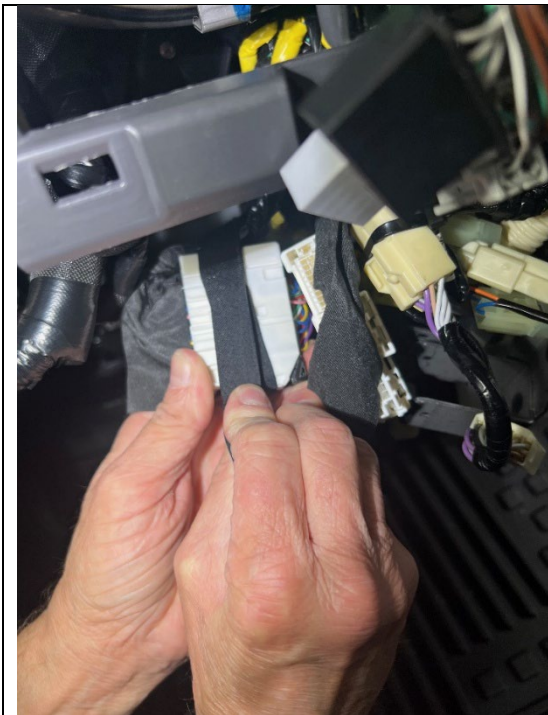

Figure 17
23. Use a strip of Tesa tape to tape the black wiring harness going to H99 to the right-hand side of H99. (See Figures 17 and 18.)